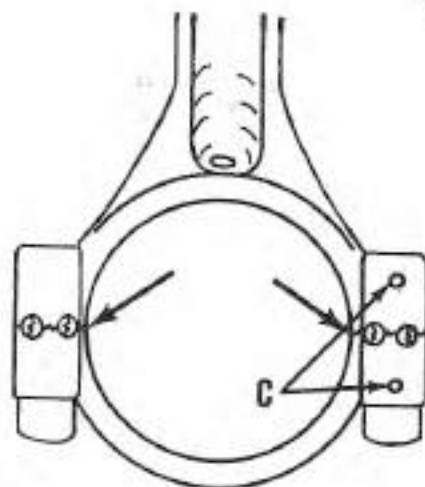

Fig. Mc134 — Uneven fractured parting line of rod and cap (shown by arrows) assures positive fit after assembly. Be sure correlation marks (C) are aligned.
fractured during manufacture at point of arrows, Fig. Mc134, to provide a positive location. When installing cap, make sure the correlation marks (C) are aligned, then shift cap back and forth a slight amount while tightening, until fractured sections are in perfect mesh. When tightened completely, the parting line of rod and cap is practically invisible. When installing the connecting rod, the side marked "TOP" should face flywheel end of crankshaft.